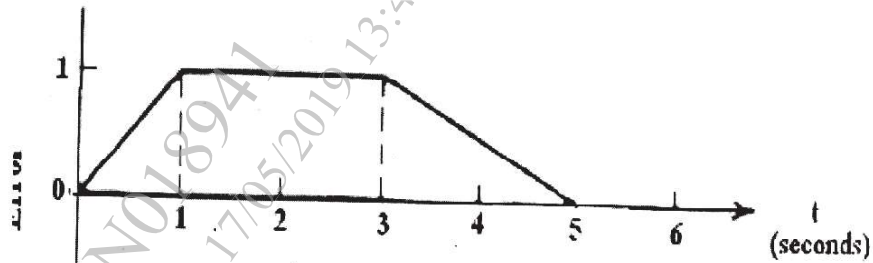

**Figure 3**
- Q8) a)** For the system in Figure 3, assume  $m$ =mass=2 kg,  $k$ =stiffness=4 N/m and  $b$ =damping = 0.3 Ns/m. Also,  $F$ =Force input in N and  $x$  = displacement output in m. **[10]**